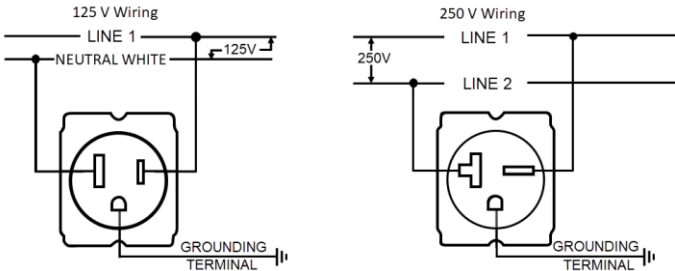

Fig. 6
2. For typical wiring diagram see Fig. 6 and table 1.